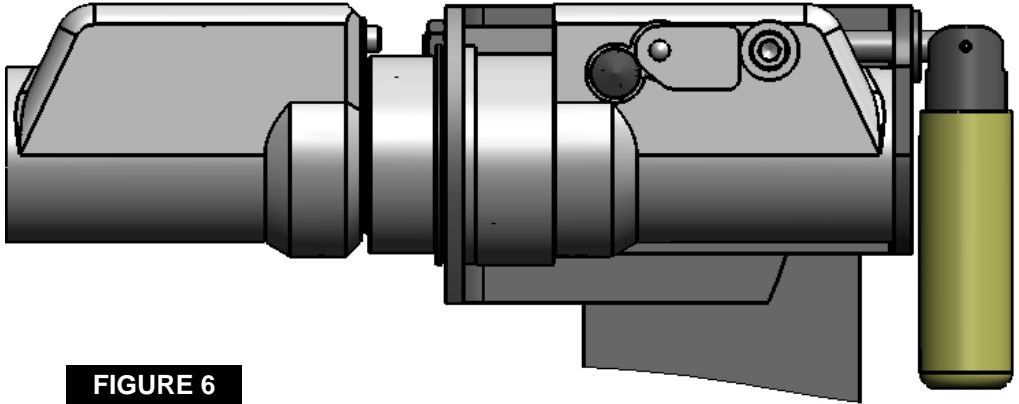

FIGURE 6
- Once the Male half is fully engaged, return the handle to the horizontal position to lock the coupler halves together. Pull the Male Half to make sure the latch is engaged. Rotate the bracket handle 5-6 turns counter clockwise so that it is no longer in contact with bracket and let it hang freely as shown in figure 6. This is the normal operating position and will ensure the coupler will not disengage accidentally.